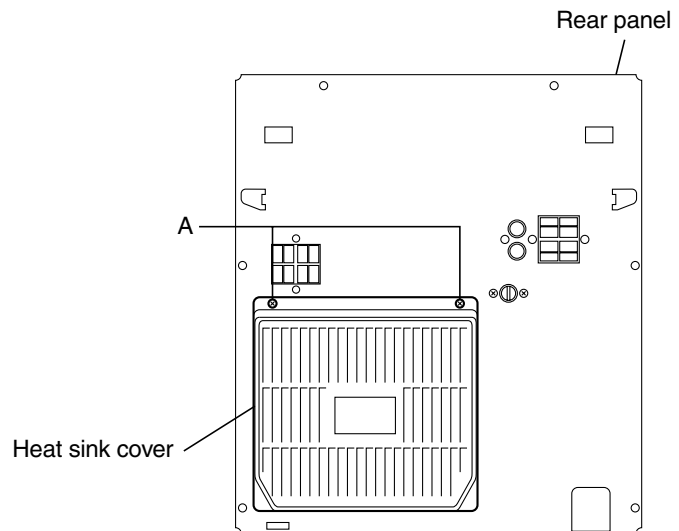

Fig.2
3. Solder is put up before the card wire is removed from connector CN601 on the main board as shown in Fig.1 and Fig. 2.
**■ Replacing the power IC (See Fig.2 to 4)**